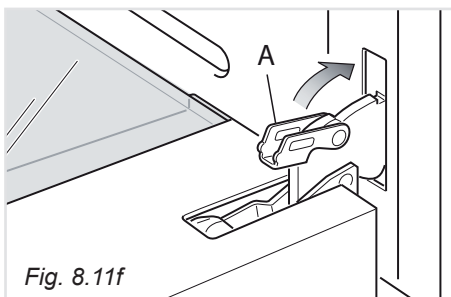

Fig. 8.11f
- Unlock the oven door by opening it completely and closing the lever "A" on the left and right hinges (fig. 8.11f).